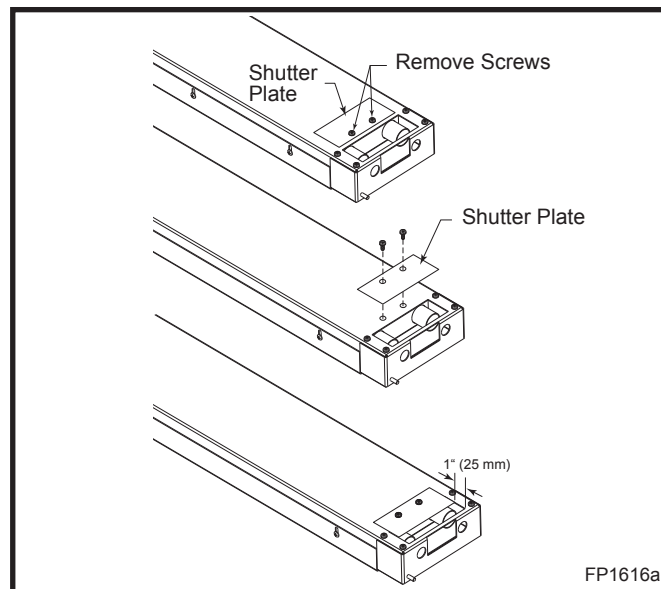

Fig. 32 Turn shutter plate over to cover opening.
4. Turn the burner housing upside down. Remove the two (2) screws securing the shutter plate to the bottom of the burner. Turn the shutter plate around so the bottom opening is 1" (25 mm). Replace the screws removed earlier. (Fig. 32)